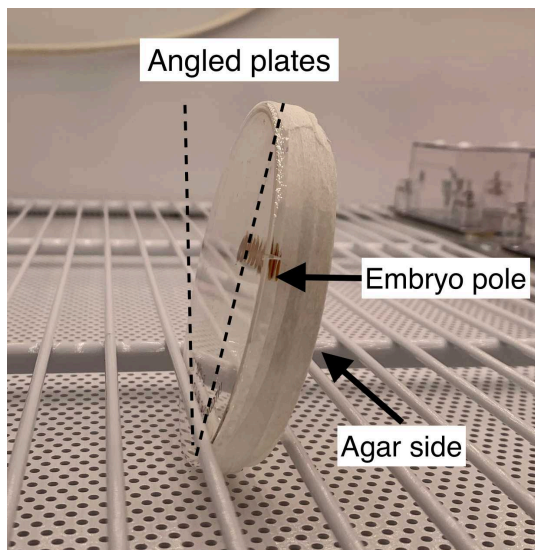

Figure 4: Position of plates with seeds during germination.
- **Transfer plates** from the fridge, place them vertically under an angle into a growth chamber (Figure 4), and ensure the embryo poles point down and face the lid.
Figure 4: An example of *Brachypodium* seedlings vertically germinated for 3 days, ready for transfer to EcoFAB 2.0. Note that shoots and roots grow from embryos, which must face away from the agar to prevent the growth of shoots into the media.